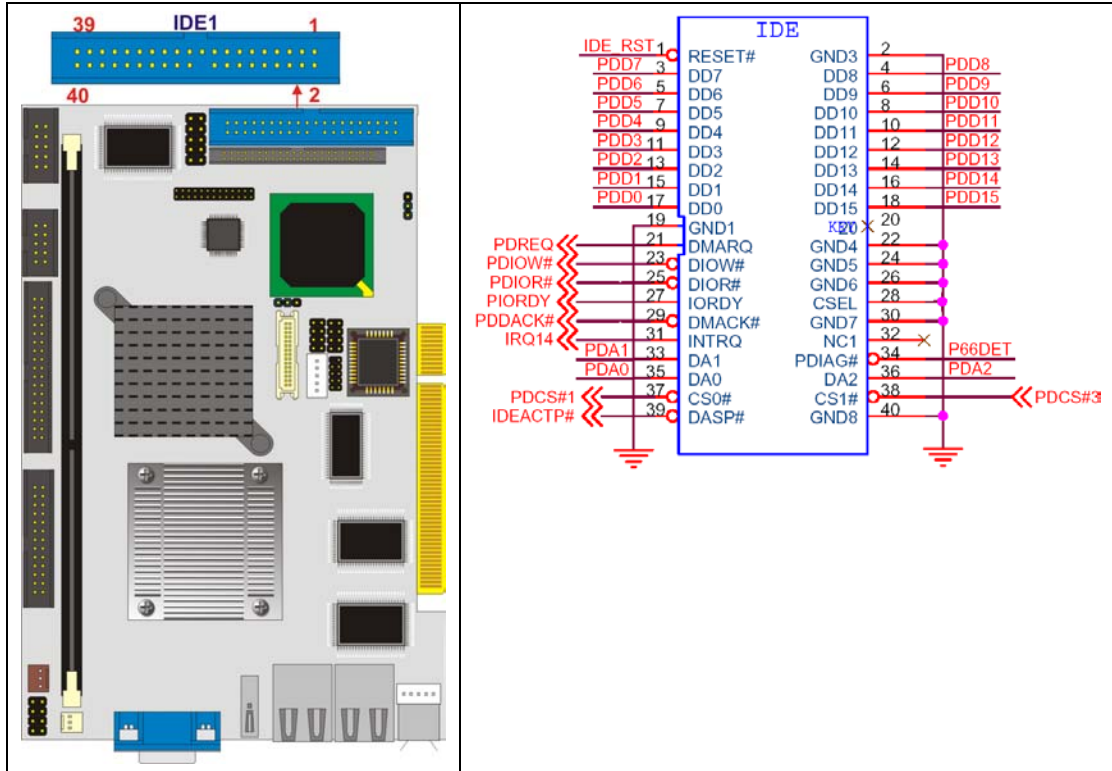

Figure 3-11: Primary IDE Device Connector Locations
- CN Location:** See Figure 3-11